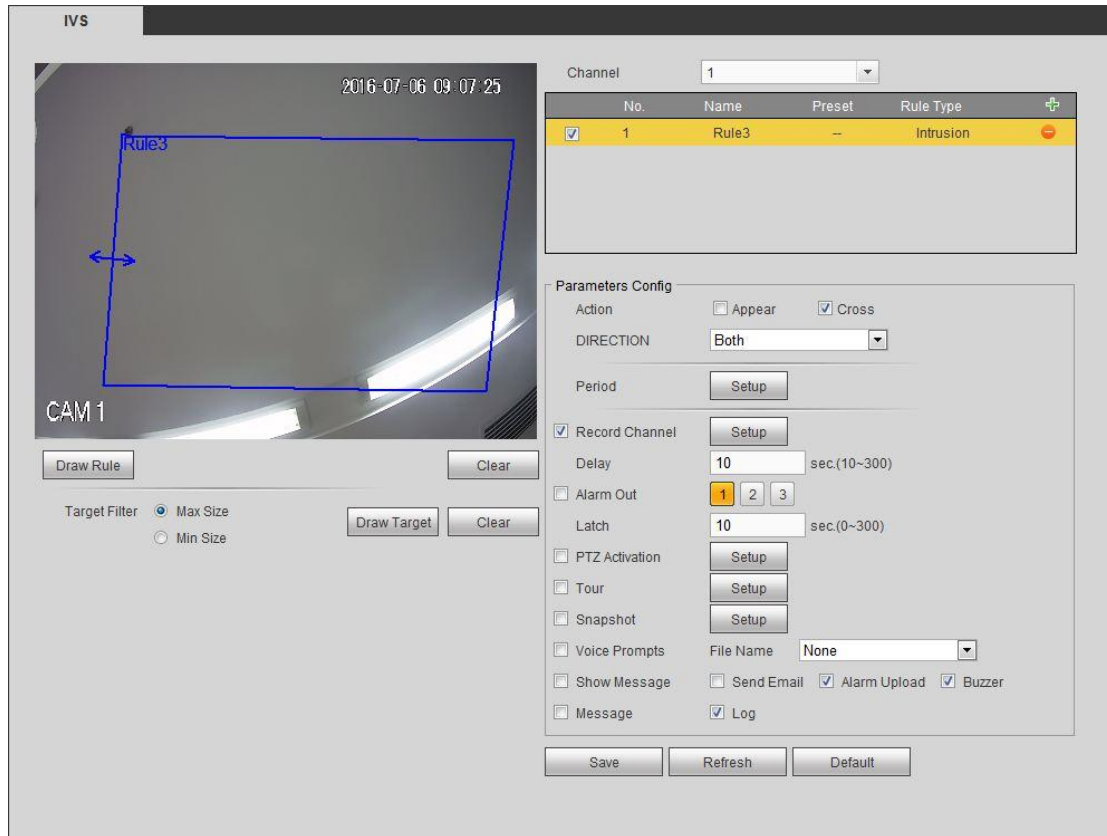

Figure 4-76
Step 3 Click Draw rule button and then left click mouse to draw an intrusion rule. Right click mouse to complete. See Figure 4-76.